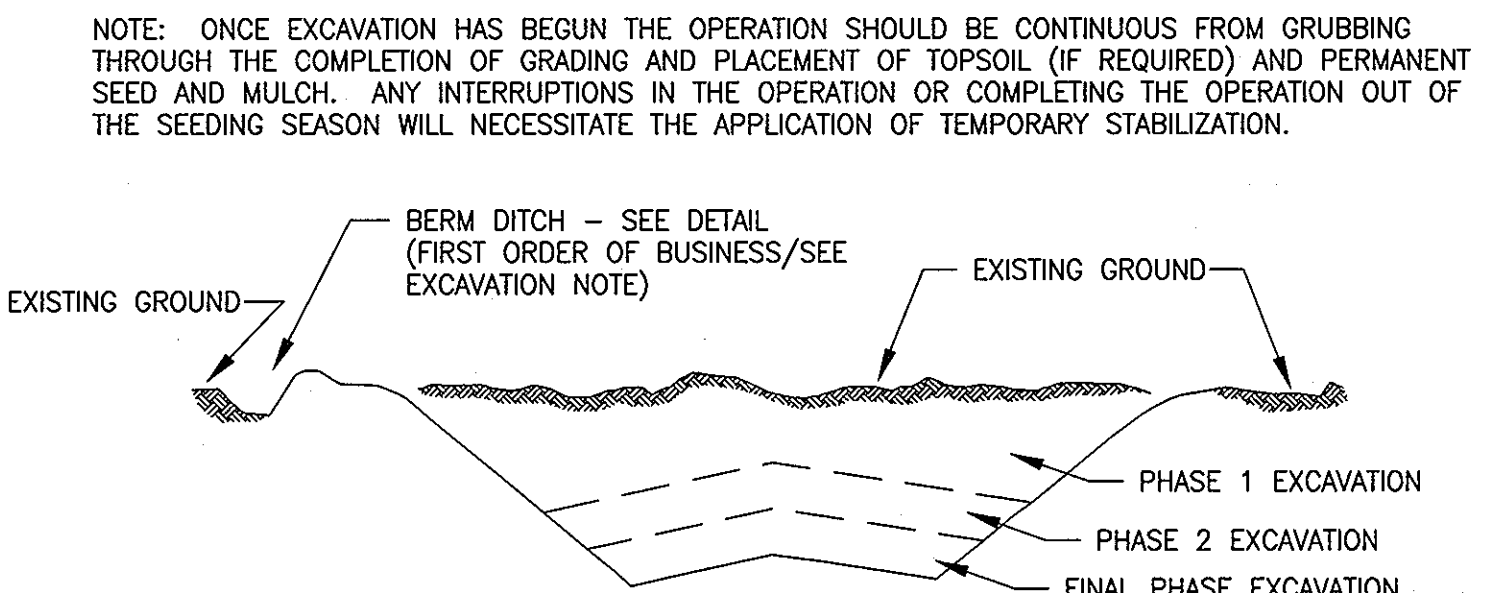

FIGURE 4: INCREMENTAL STABILIZATION - CUT
- i. A MULCH ANCHORING TOOL IS A TRACTOR-DRAWN IMPLEMENT DESIGNED TO PUNCH AND ANCHOR MULCH INTO THE SOIL SURFACE A MINIMUM OF TWO (2) INCHES. THIS PRACTICE IS MOST EFFECTIVE ON LARGE AREAS, BUT IS LIMITED TO FLATTER SLOPES WHERE EQUIPMENT CAN OPERATE SAFELY. IF USED ON SLOPING LAND, THIS PRACTICE SHOULD BE USED ON THE CONTOUR IF POSSIBLE.
- ii. CONSTRUCTION SEQUENCE (REFER TO FIGURE 4 BELOW):